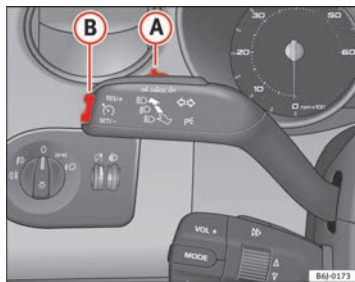

Fig. 111 Turn signal and main beam headlight lever: switch and rocker switch for the cruise control
- Move the control ⇒ fig. 111 **A** to the left to **ON**.